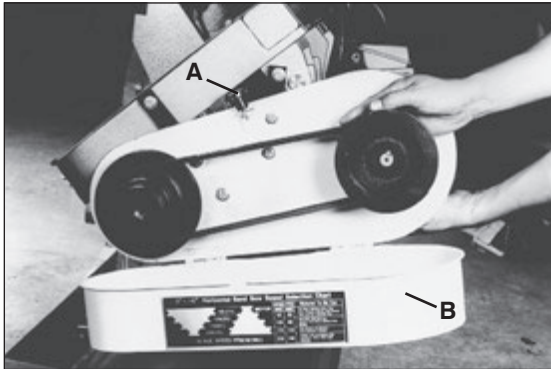

Fig. 12
2. Loosen and remove knob, (A) Fig.12, and swing belt and pulley guard (B) to the side of the machine.
4. Shift the belt Fig.12, to the desired grooves on the pulleys and adjust belt tension by pulling the motor plate back until correct belt tension is obtained and tighten tension lock nut.
5. Close belt and pulley guard, replace and tighten knob (A).